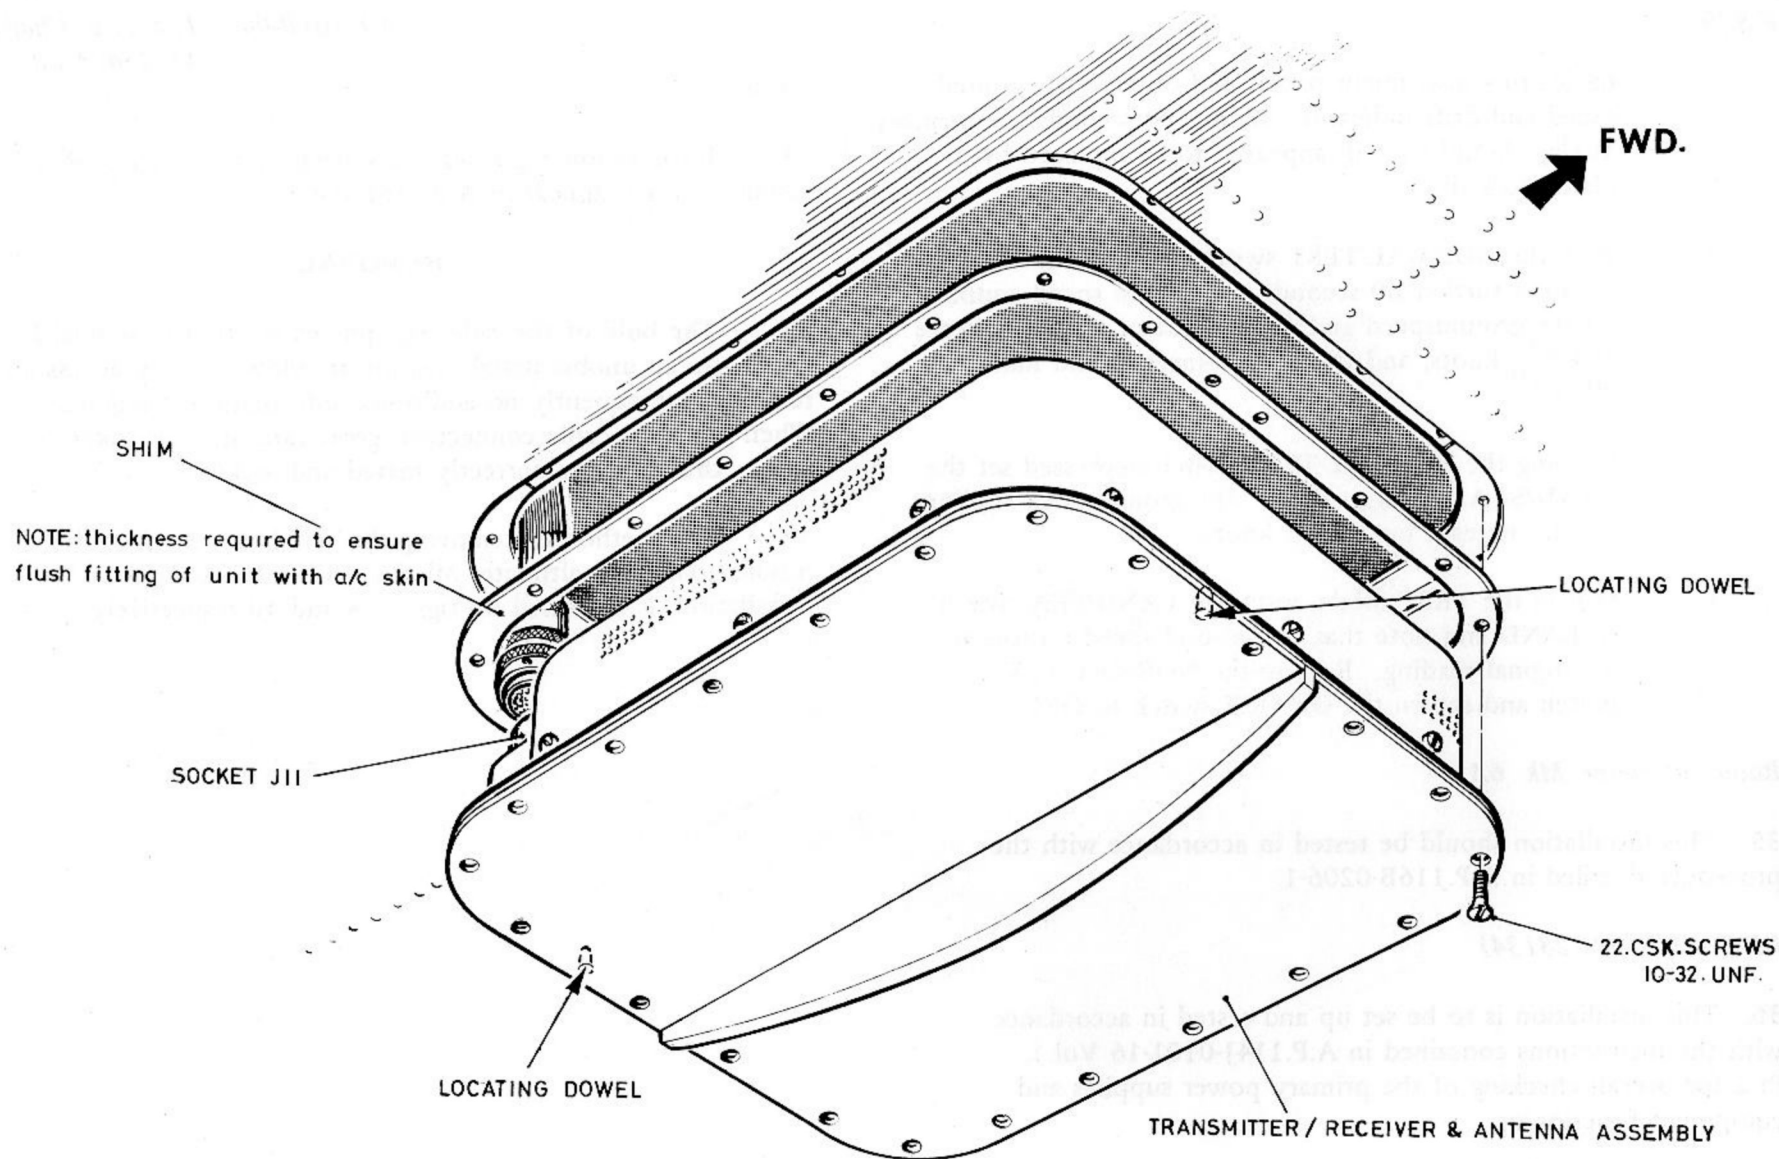

Fig.7.ARI.5972/3. Aerial removal.
39. The method of removing the aerials for the Doppler installation, radio altimeter Mk.6A, I.F.F./SSR and TACAN installation, is indicated on figs. 7, 8 and 10 respectively.